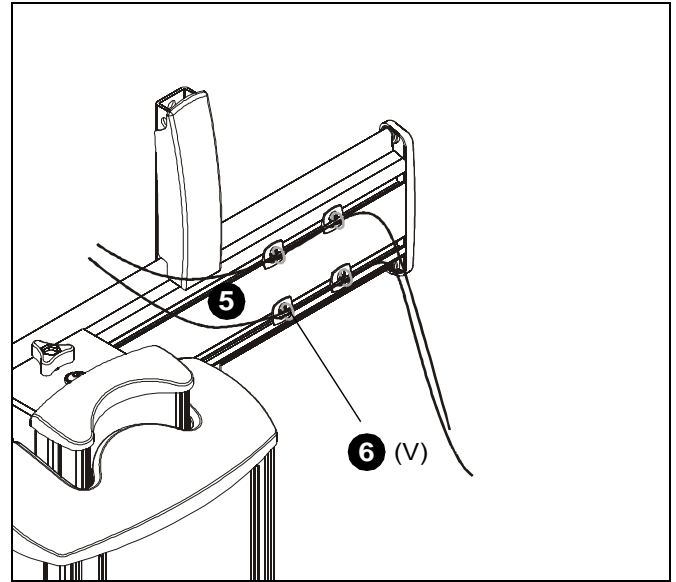

Figure 13
5. Route cables along FCA clips to be used for cable management. (See Figure 13)
6. Use cable ties (V) to secure cables to FCA clips. (See Figure 13)